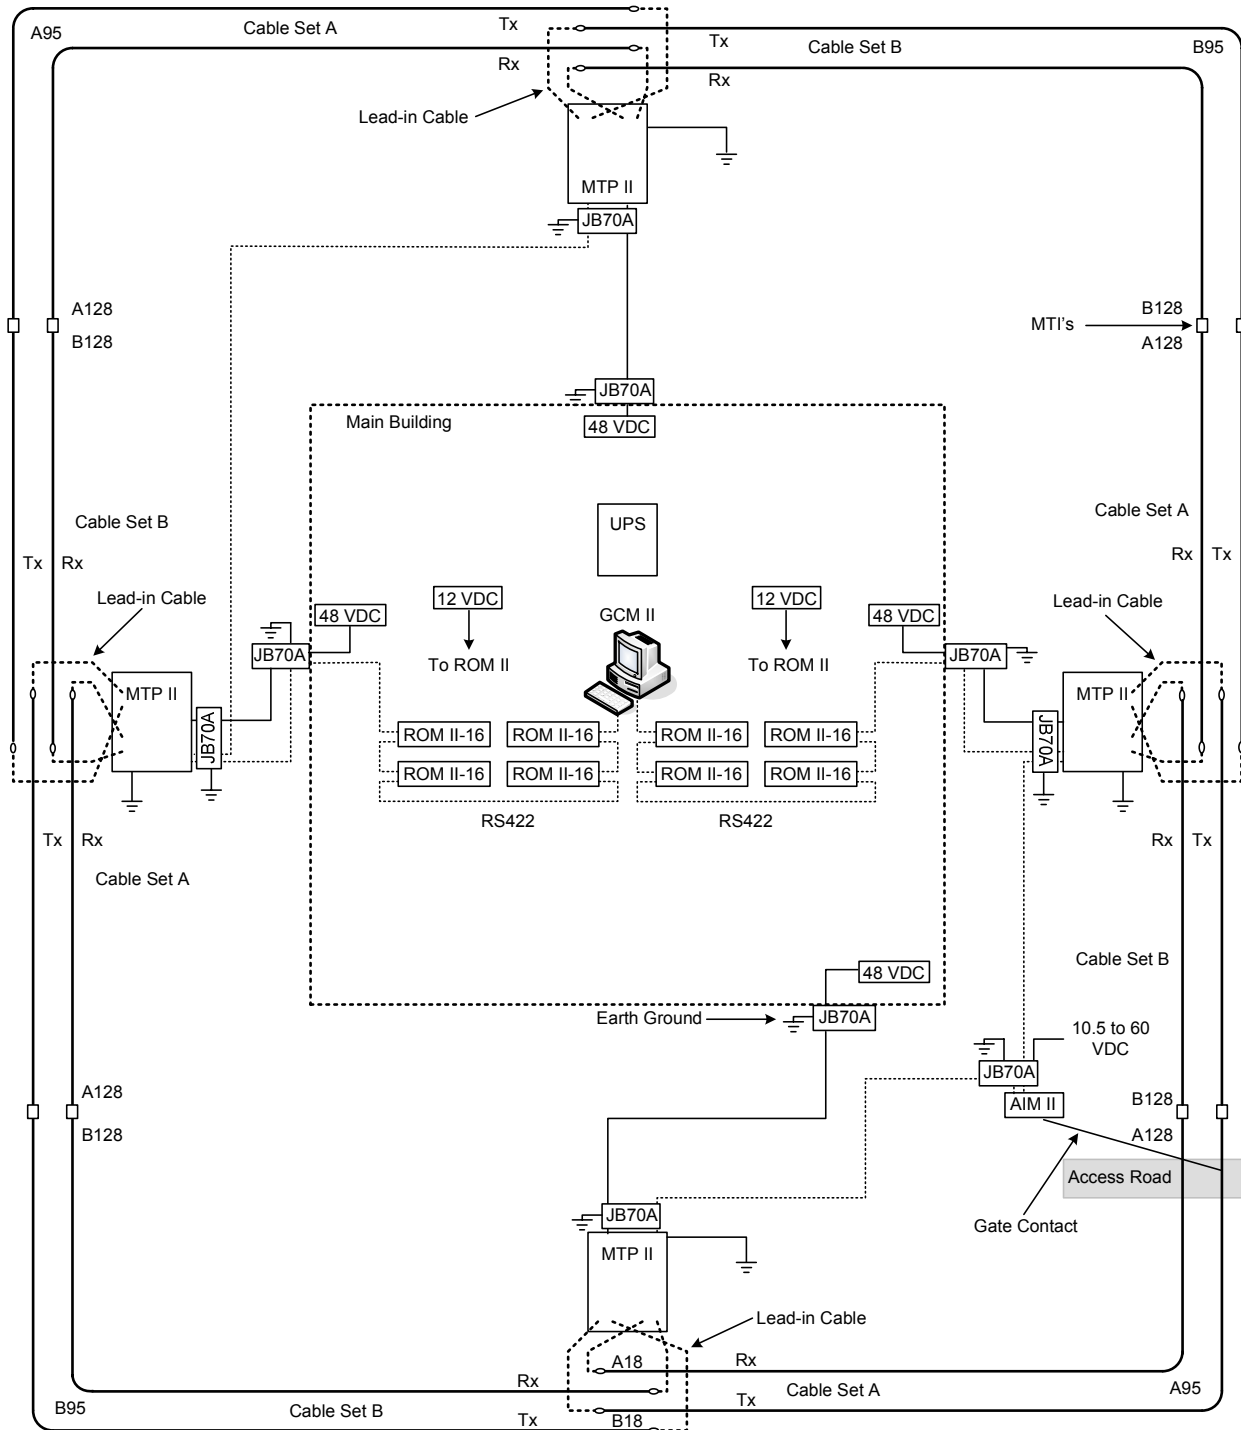

Figure 4.3 – Example of Multiple MicroTrack II Processors
Figure 4.3 shows an example configuration using four MTP II's. A Graphic Control Module II (GCM II) is used to communicate with the MTP II's, ROM II-16's and the AIM II. Each MTP II has a PS48 power. All power supplies and the GCM II are connected to the recommended UPS. Cable overlaps from the MTP's are connected using the MTI (MicroTrack In-line Termination). Some typical items are shown such as: cable sets, subcell numbers, conduit runs, MTI's, and earth grounds. *Note: Individual component*
Figure 4.3 also shows that the power and data wiring can be in the same conduit for a direct connection to the first MTP II. An alternative to the independent conduit wire runs is to include the power and data wiring in the same trench as the sensor cables. This would use a direct burial cable from such companies as Beldon, Alpha or any equivalent source. **Note: This wire can not be put in conduit in the same trench as the sensor cable.** Direct burial cable requires a sand base to prevent damage to the cable. *Note: Ferrite beads may be required on these lines.*
7. Insure that “A” cables are overlapped at the ends by “B” cables from the adjacent MTP II. (See Figure 4.3)
8. Insure that Transmit cables are in one trench and Receive cables are in the other trench around the entire site. (See Figure 4.3)